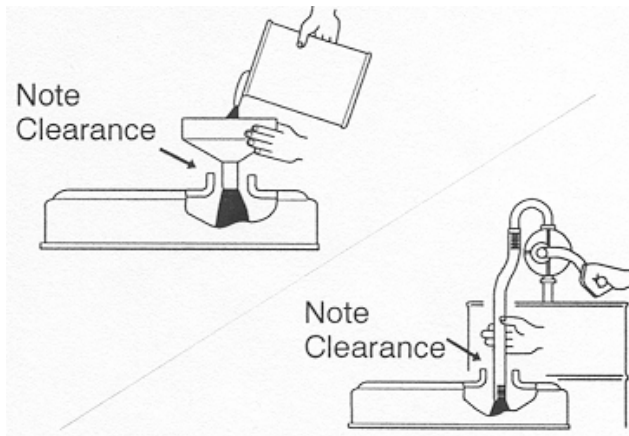

Figure 16
**Important** Make sure that the dipstick is removed while filling the engine with oil. When adding engine oil or filling oil, there must be clearance between the oil fill device and the oil fill hole in the valve cover as shown in figure 16. This clearance is necessary to permit venting when filling, which prevents oil from overrunning into breather.